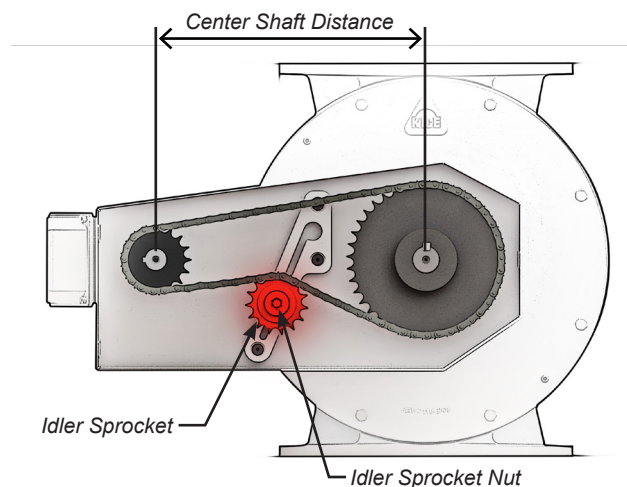

FIGURE 7
- b. Push idler sprocket up along the slide path to tighten chain (Figure 7).